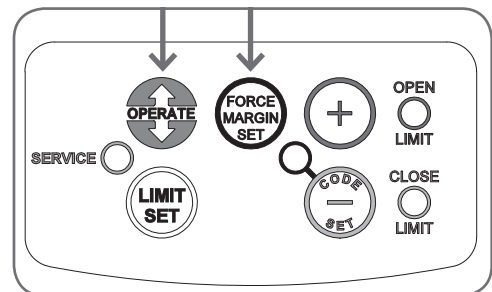

Fig.6.5.5
- While holding down the FORCE MARGIN SET button, press the LIMIT SET button (**Fig.6.5.5**) for two seconds.